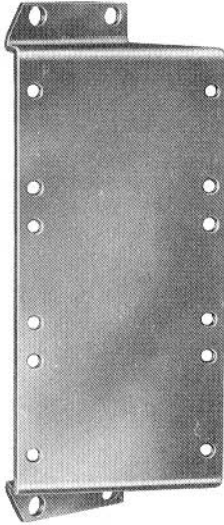

Fig. 48—813722048 (P-37B204) Bracket
10.04 The 813722048 (P-37B204) bracket (Fig. 48) is used to mount angle-bracket type KTUs on 15A, 16-type, 26A, and 31-type apparatus mountings. Twelve tapped holes permit front and rear mounting of single- and double-space KTUs. Furnished with four 803535012 (P-353501) SPLHM screws for attaching to the apparatus mounting.